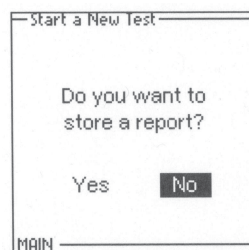

Figure 2
- [8] **SELECT** "No" to "Store a report" (TD reporting software on laptop will do reporting when TD is used with HVA (see Figure 2).